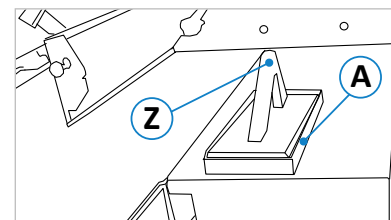

Figure 37: Push block in compartment
- When dressing short workpieces, the supplied push block (Z) or similar aids (e. g. push stick) must be used.
- When not in use, the push block should be placed in the designated storage compartment (A) on the machine stand (see \Rightarrow Figure 37).